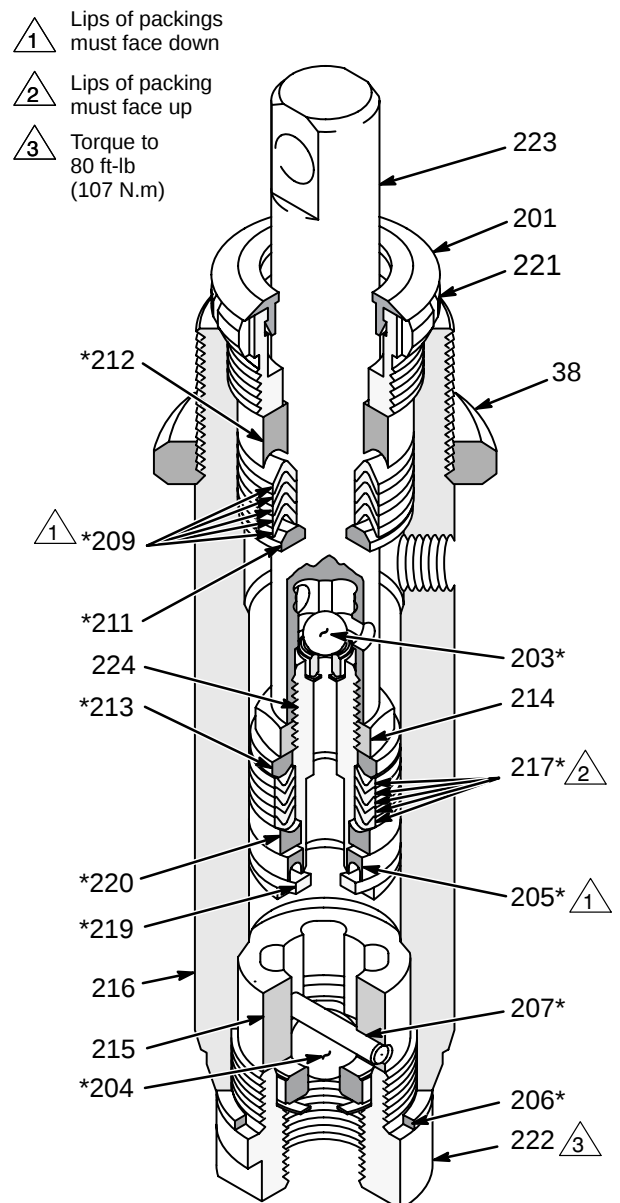

Fig 36
1. Stack these parts one at a time onto the piston valve (224): backup washer (219*), U-cup seal (205*) *lips down*, and female gland (220*), v-packings (217*) *lips up*, and then the male gland (213*). See Fig 36.
5. Stack these parts one at a time into the top of the cylinder (216): male gland (211*), v-packings (209*) *lips down*, and then the female gland (212*). See Fig 36.
6. Loosely install the packing nut (221) and plug (201).
7. Insert the oiled piston rod (223) through the bottom of the cylinder.
8. Assemble the intake valve. Use a new gasket (206*). Screw the intake valve into the cylinder and tighten to 80 ft-lb (107 N.m). See Fig 36.
9. Screw down the cylinder locknut (38) until it is finger tight at the bottom of the external cylinder threads. See Fig 36.